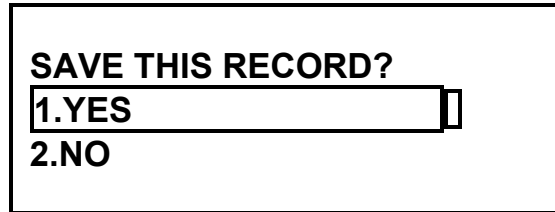

Figure 32.0 Save This Record Menu
- c. **Action Options:** Press key number 1 (“YES”) or push down the Control Knob. Press key number 2 to end the current test and advance to the “Save This Record Menu” (Figure 32.0). Selection of 2 may be made by turning the Control Knob. Push down the Control Knob after 2 is selected.
- b. Origin:** Select menu option 1 (“YES”) from the “Save This Record Menu” (Figure 32.0).
- b. **Origin:** Press key number 2 (“NO”) from the “Save This Record Menu” (Figure 32.0).